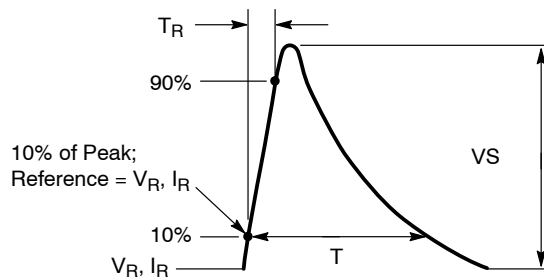

Figure 3. Load Dump Waveform Definition
- Nonrepetitive load dump suppressed pulse per Figure 3.